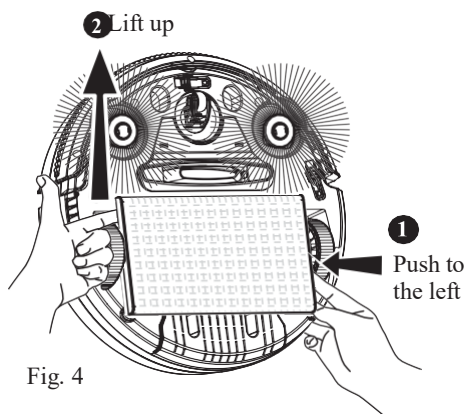

Fig. 4
1. Remove the dusting paper holder following the instruction shown in Fig. 4.
2. If you don't need to use mopping function, please remove the dusting paper holder from the cleaner (follow the instructions shown in Fig. 4) before you turn it on for cleaning.